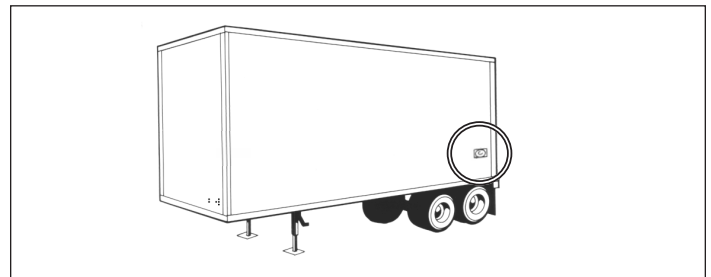

Figure 4 – Trailer-Mounted ABS Indicator Lamp
- **Trailer-Mounted ABS Indicator Lamp:** See Figure 4. The iTABS module controls an ABS indicator lamp to show the trailer ABS status. With power supplied by the towing vehicle – if there is an active DTC, or during the bulb test at startup – the module illuminates the ABS indicator lamp by providing a 12.0 VDC signal (the other side of the lamp is grounded). The ABS indicator lamp output uses Pin 4 of the 7-pin connector on the module.